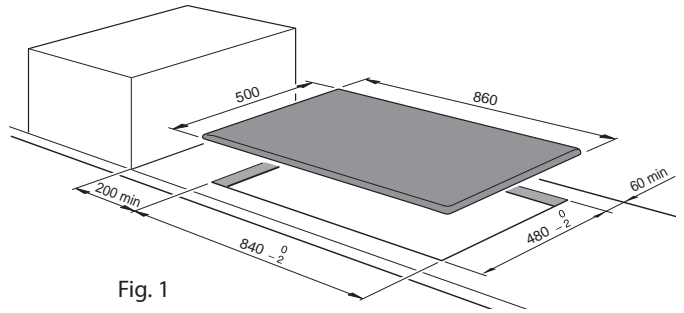

Fig. 1
In order to install the hob into the kitchen fixture, a hole with the dimensions shown in fig. 1 has to be made, bearing in mind the following:
- the hob must be kept no less than 200 mm away from any side wall (fig. 1).